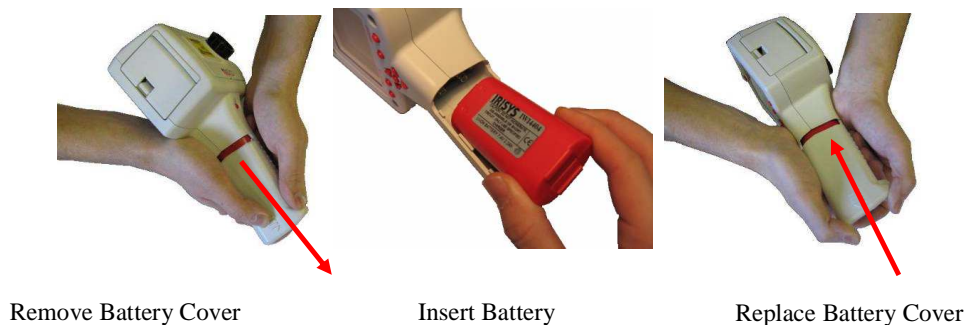

Figure 2: Inserting the Rechargeable Battery.
1. Open up the battery compartment on the bottom of the IRI 4010 thermal imager by sliding the battery cover off as indicated in Figure 2.